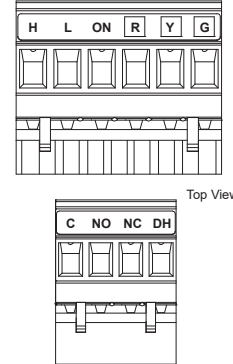

Figure 29. Type B
- For the PrecisionSYNC Control (435244), remove the operating instructions card from the top of the control (Figure 29, Box A).
- Separate the face plate from the back plate by firmly pulling apart (Figure 29, Boxes B or C). Be careful not to damage face plate contact pins.
- For the PrecisionSYNC Control, place the back plate of the control in the desired location on the wall and pencil mark the wall with the right and left screw holes (Figure 29, Box D).
- For the Two-Speed Switch with Humidity Sensor (435245) and Two-Speed Switch with Intermittent Mode (435246), place the back plate of the control in the desired location on the wall and pencil mark the top and bottom screw holes (Figure 29, Boxes E or F). For mounting the control without a decorative plate, break off top and bottom tabs and refer to Figure 29, Box F for mounting.
- Remove the back plate from the wall and mark the center hole for the wires in the middle of the screw holes. Refer to Figure 29, Boxes D, E or F for dimensions.
- Drill (two) 1/8" (3 mm) holes for the screws and wall anchors (Figure 29, Boxes D, E or F). For the PrecisionSYNC Control, drill a one inch hole in the center (Figure 29, Box D). For the Two-Speed Switch with Humidity Sensor (435245) and Two-Speed Switch with Intermittent Mode (435246), cut in a 3/4" (19 mm) by 1" (25 mm) oval hole in the center (Figure 29, Boxes E or F).
- Connect red, green, and yellow to the wiring terminals located on the back plate (Figure 29, Boxes D, E or F).
- Attach the face plate to the back plate (Figure 29, Boxes B or C).
- For the PrecisionSYNC Control (435244), insert the instructions card into the control (Figure 29, Box A).